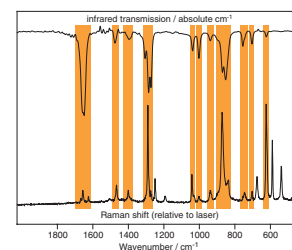

Figure 1
Raman spectroscopy is similar to infrared (IR) or FT-IR) spectroscopy. However, due to the different 'selection rules' governing Raman activity, the two techniques are highly complementary. Figure 1 shows the FT-IR and Raman spectra of PETN, a common component in explosives. Bands related to vibrations which are both Raman and IR active have been highlighted. Notice the extra information contained in the Raman spectrum of PETN.
- Fig. 1 Prof. DN Batchelder, University of Leeds